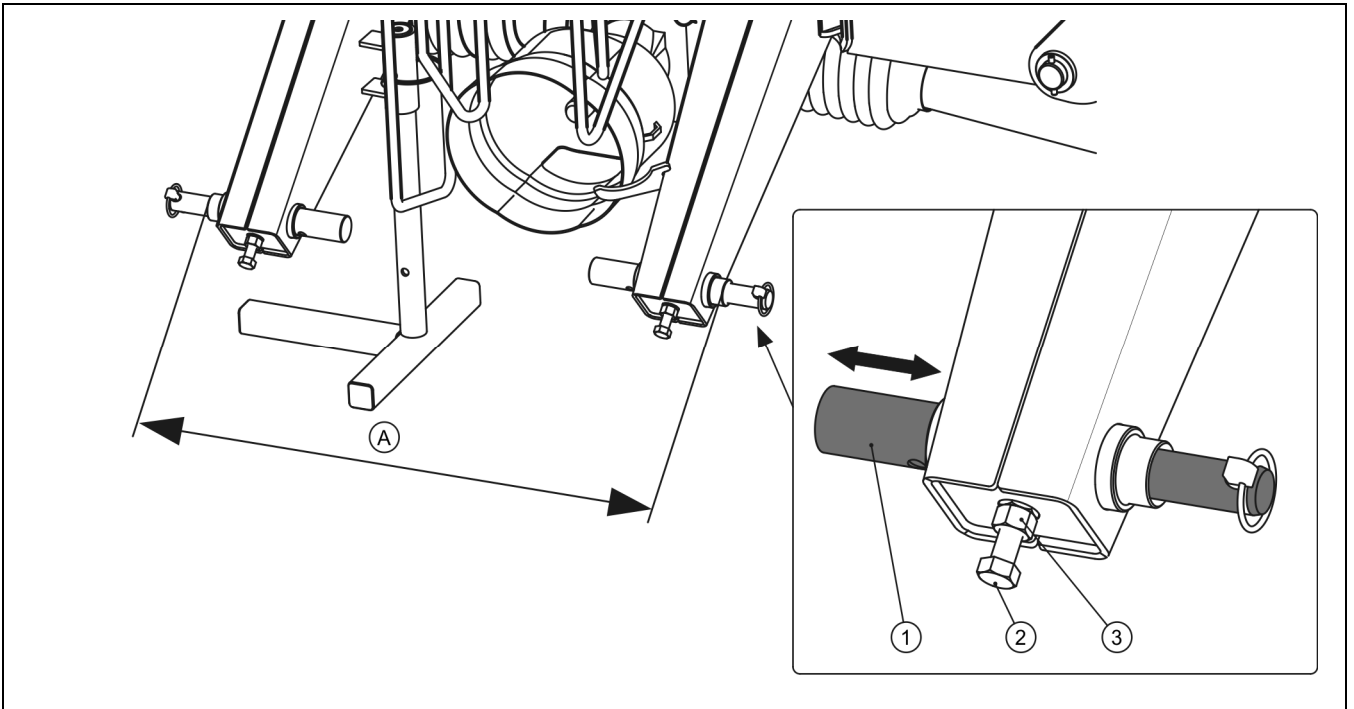

FIG. 4.2A Adjustment of mower lower mounting pins
Lower pins (1) of the mower linkage enable spacing adjustment (Figure 4.2A) in range 795 - 970 mm. To change spacing of linkage pin spacing:
- Loosen counter nut (1),
- Unscrew setting screw (2),
- Move pin (1) to the right or the left to obtain the required spacing,
- Block pin position with setting bolt (2) and counter nut (3)